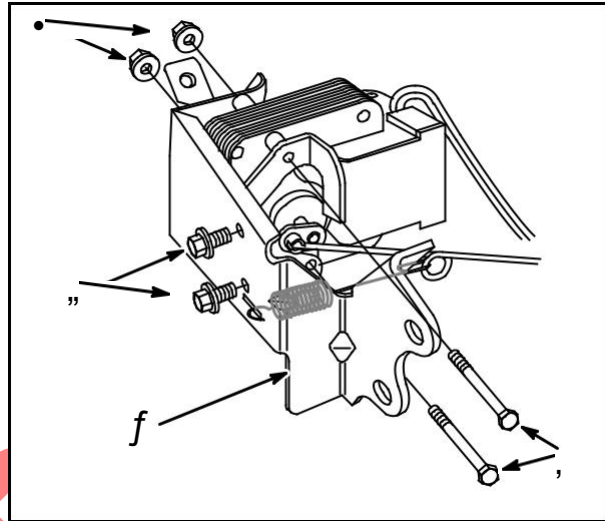

Fig. 57
Assemble actuator to governor control bracket (3), **Fig. 57**. Torque screws (4) and nuts (1) to **30 in. lbs. (3 Nm)**.